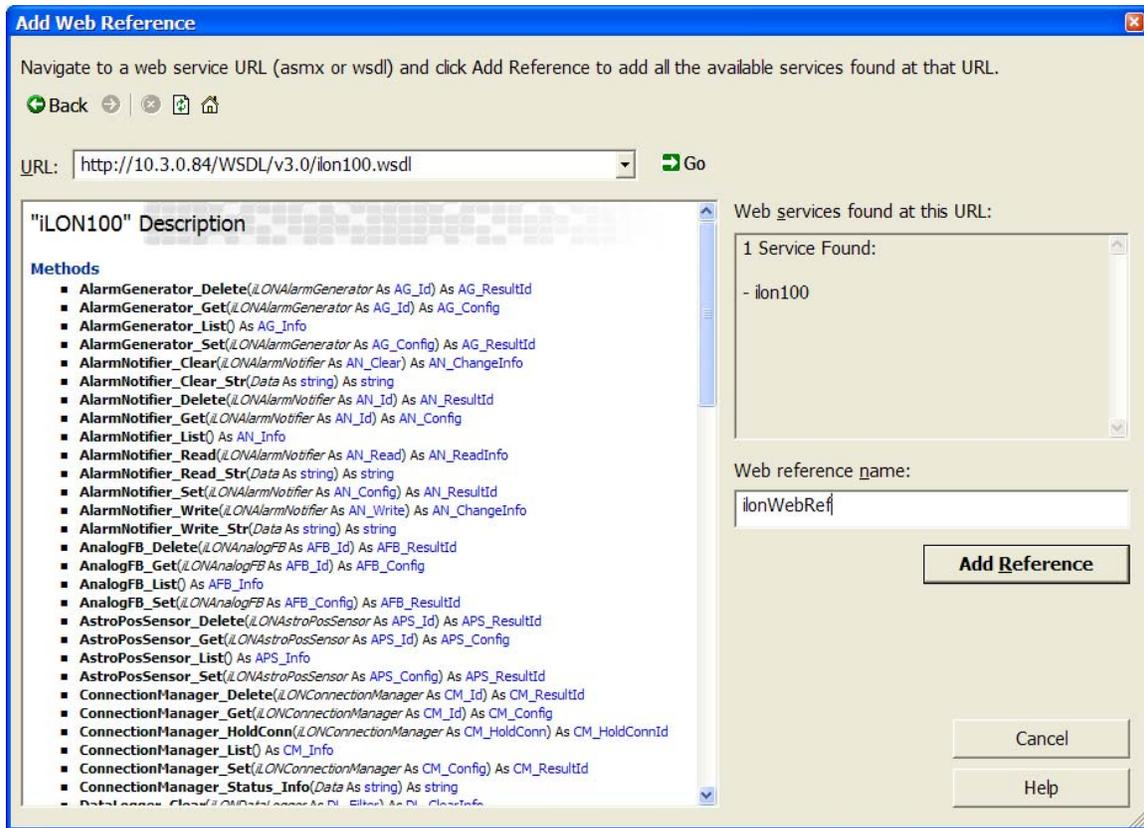

Figure 13.2 Add Web Reference Window
- Click **Go**, and then enter a name for the Web reference in the **Web Reference Name** box. In Figure 13.2, the name chosen is "ilonWebRef." You will use this name when you instantiate the Web services object, because this will become a name for the proxy class that will be generated automatically by Visual Studio .NET. This is described in more detail in the next section.